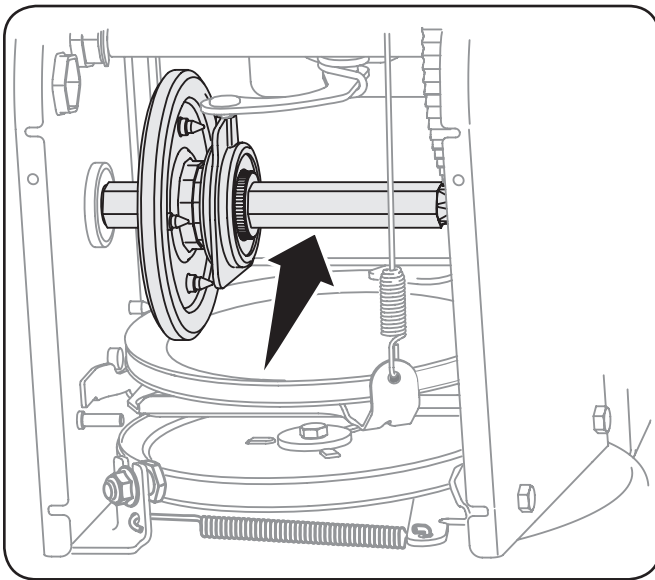

Figure 6-4
4. Apply a light coating of anti-seize (part# 737-0288) to the hex shaft. See Figure 6-4.